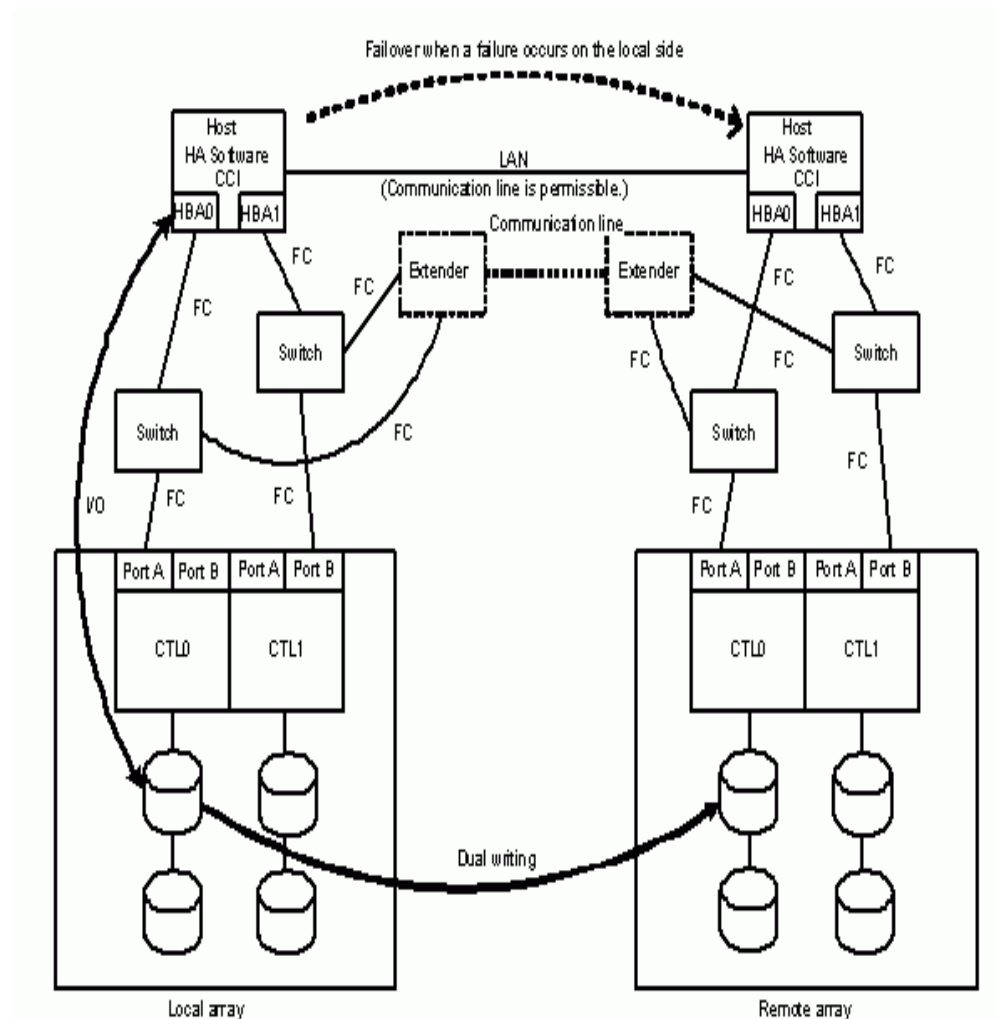

Figure 15-5: Configuration for failover
By installing the High Availability (HA) Software on both the local side and the remote side, when a failure occurs in the host or in the array, although the input and output operation from the host on the local side cannot be executed, operation will continue by automatically switching over to the stand-by host on the remote side. A configuration is shown in Figure 15-5 on page 15-23.